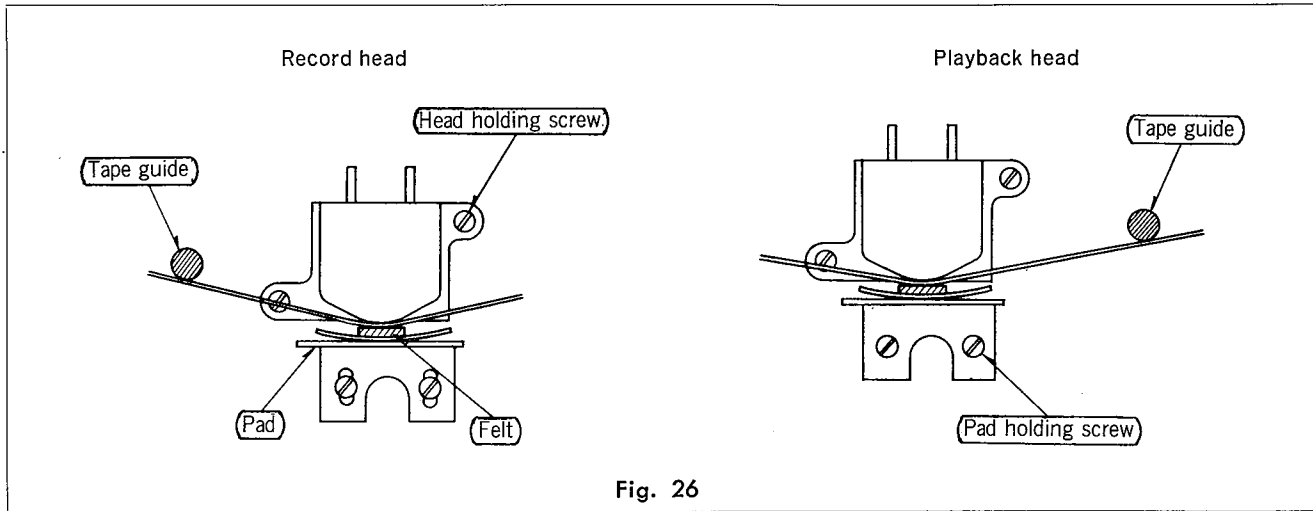

Fig. 26
a) Loosen the head holding screw, shown in Fig. 26, move the head to the right or the left, as shown in Fig. 30 and, when the playback output is maximum, determine the head fixing position. Confirm the conditions of 2-1. (including the back/forth adjustment)
b) If method (a) is difficult or insufficient, loosen the pad holding screws, shown in Fig. 26, and adjust the pad by moving it to the right or the left, as shown in Fig. 31, and confirm the conditions of 2-1.